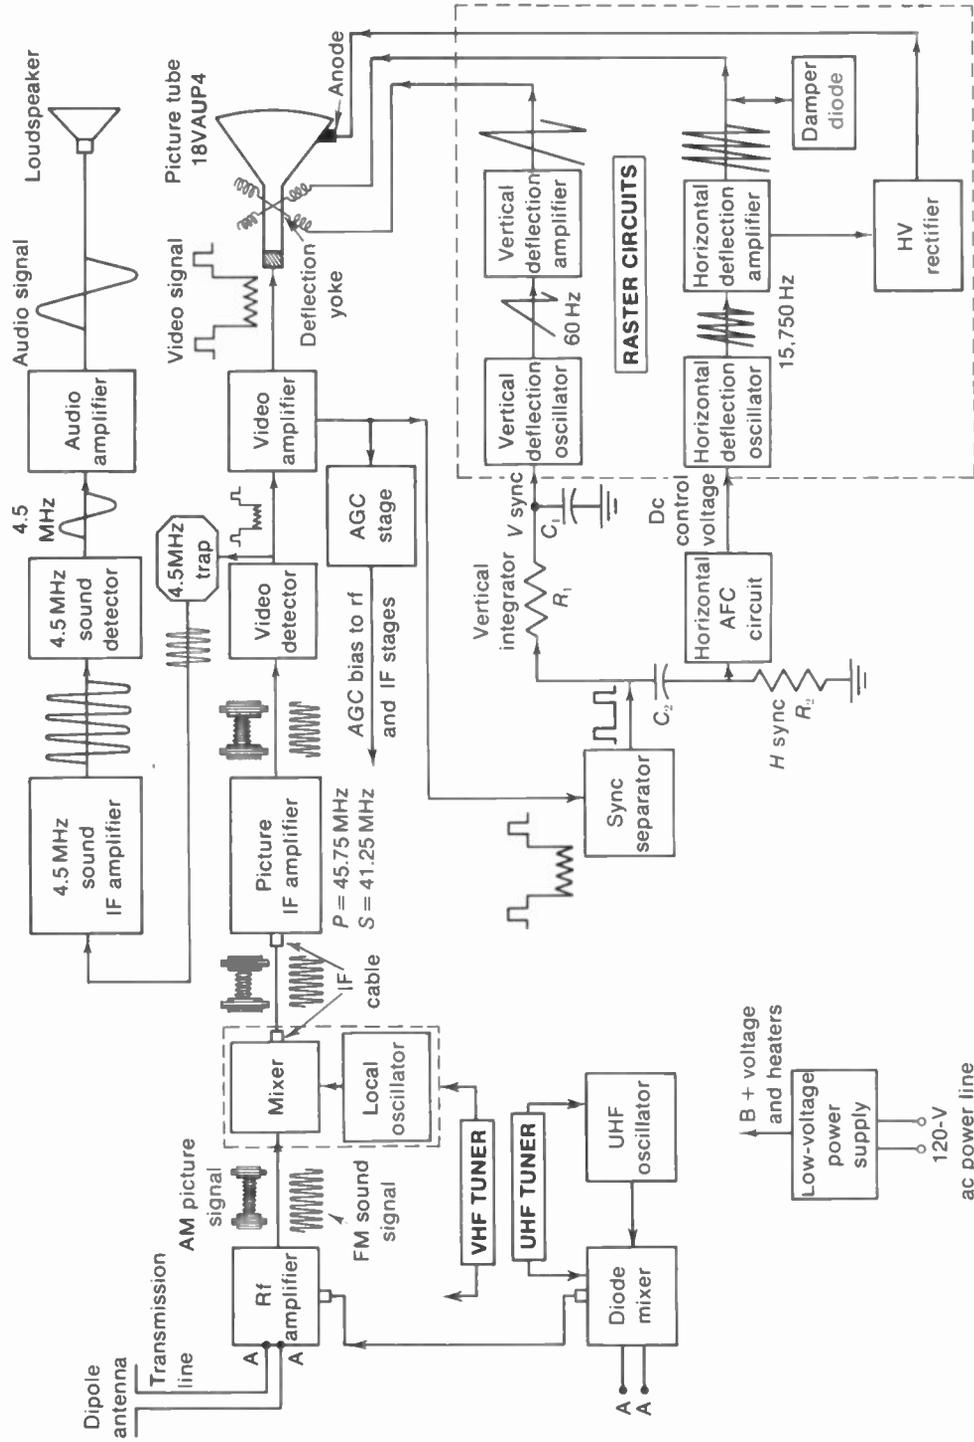

FIGURE 7-2 FUNCTIONS OF CIRCUITS IN TELEVISION RECEIVER. P IS PICTURE CARRIER SIGNAL; S IS SOUND CARRIER SIGNAL. WAVESHAPES SHOWN ARE NOT TO SCALE.
See the block diagram in Fig. 7-2, with typical waveshapes. These circuits are essentially the same for monochrome and color receivers. For a color broadcast, the chrominance signal is part of the video signal. In monochrome receivers, however, this 3.58-MHz *C* signal is just not used, as the video amplifier attenuates frequencies above 3.2 MHz. The type number 18VAUP4 for the monochrome picture tube indicates that 18 in. is the screen diagonal and P4 is the phosphor for a white screen.
**Intercarrier sound.** In addition to the video signal, the output of the video detector in Fig. 7-2 includes the 4.5-MHz intercarrier sound signal. All television receivers, monochrome or color, use the intercarrier method of demodulating the sound as a 4.5-MHz signal for all channels, VHF or UHF. However, color receivers have a separate 4.5-MHz sound converter, instead of using the video detector for this function. The
generally used. This requires video signal with positive sync polarity and negative white amplitudes at the picture tube cathode, as shown in Fig. 7-2. Remember that negative cathode voltage corresponds to positive voltage at the control grid, to increase the beam current for white signal amplitudes.
Since there are synchronizing pulses for both horizontal and vertical scanning, Fig. 7-2 shows the output of the sync separator divided into two parts. The integrator is a low-pass RC filter circuit that filters out all but the vertical pulses from the total separated sync voltage. Then the vertical synchronizing signals can lock in the vertical deflection oscillator at 60 Hz. For horizontal synchronization, an automatic-
**Deflection circuits.** As shown in Fig. 7-2, these include the vertical oscillator and amplifier for vertical scanning at 60 Hz, with the horizontal oscillator and amplifier for scanning at 15,750 Hz. For either vertical or horizontal scanning, the oscillator stage generates deflection voltage to drive the amplifier at the required frequency. The deflection amplifiers are power output stages to provide enough scanning current in the deflection yoke for a full-sized raster.
**Low-voltage supply.** Two power supplies are shown in Fig. 7-2. One is the usual B+ supply for dc operating voltages on the tubes or transistors. This is the low-voltage supply because its output voltage is low compared with the high-voltage supply for anode voltage on the picture tube. For sufficient brightness, the anode voltage for black-and-white picture tubes is 9 to 20 kV, while color tubes use about 18 to 25 kV.
**Rf and IF values.** As an example, let the VHF tuner in Fig. 7-2 be set for tuning in channel 3 at 60 to 66 MHz. Then the rf amplifier and mixer input are tuned to this band of frequencies for the picture carrier (*P*) at 61.25 MHz and the sound carrier (*S*) at 65.75 MHz. The local oscillator is at 107 MHz, which is 45.75 MHz above *P* and 41.25 MHz above *S*.
Note the sequence of stages for sound in Fig. 7-2. After being amplified in the rf tuner with the picture signal, the sound signal passes through the picture IF amplifier so that both the sound and picture IF signals are coupled into the video detector. This IF amplification for both signals is accomplished by having a little more bandwidth in the picture IF amplifier to provide some gain for the sound IF signal. However, there is much more gain for the picture signal. The gain for the picture IF signal at 45.75 MHz is about 10 times more than for the sound IF signal at 41.25 MHz. As a result, the video detector can produce the 4.5-MHz sound signal as the difference frequencies between the strong IF picture carrier beating with the weaker IF sound signal. This action corresponds to the operation of the frequency converter in the rf tuner, where the relatively strong output of the local oscillator beats with the weak rf signal.
**The 4.5-MHz sound section.** The 4.5-MHz wavetrap in the output of the video detector in Fig. 7-2 is the *sound takeoff* circuit. This resonant tuned circuit filters out the 4.5-MHz sound signal from the video frequencies. Note that the takeoff circuit, the sound IF amplifier, and the FM sound detector are always tuned to 4.5 MHz. This combination is the mark of intercarrier sound receivers.
TABLE 7-2 . CIRCUITS FOR THE RASTER (for block diagram in Fig. 7-2)
**Circuits for signal.** Table 7-3 lists these circuits as separate groups, based on the receiver block diagram in Fig. 7-2. With intercarrier sound, only the 4.5-MHz circuits and audio amplifier in the second column are for sound alone.
TABLE 7-3 CIRCUITS FOR THE SIGNAL (for block diagram in Fig. 7-2)